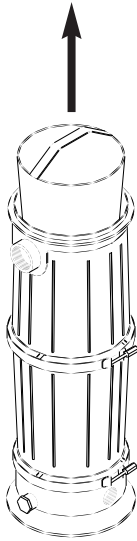

Figure 5: Lift basket to remove.
- A. Remove bag (see Figure 5) and dump spent DE into waste container.